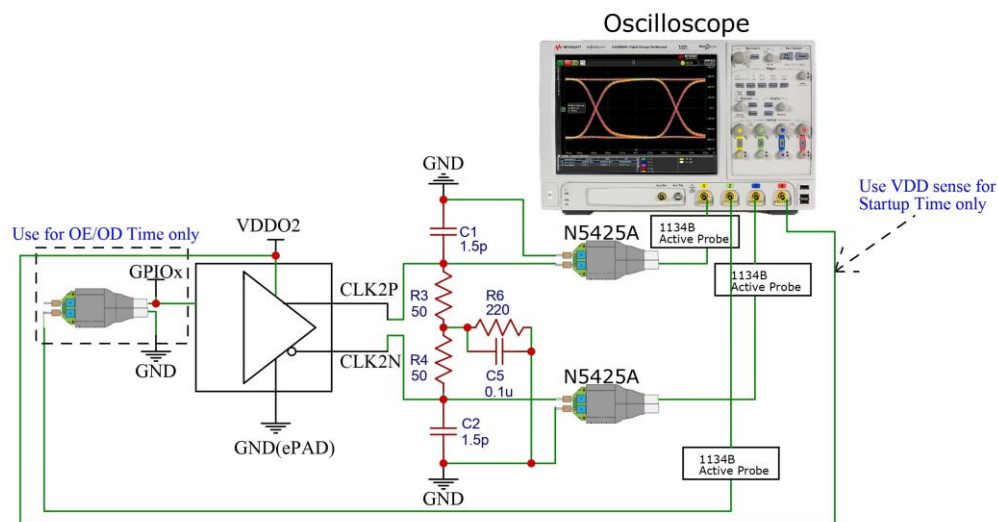

Figure 5. Test setup to measure FlexSwing Waveform Characteristics, Current Consumption^[8], Output Enable/Disable Time, and Startup Time
5. See Figure 5 for the test setup to measure LVPECL Current Consumption with Termination 1 or without Termination.